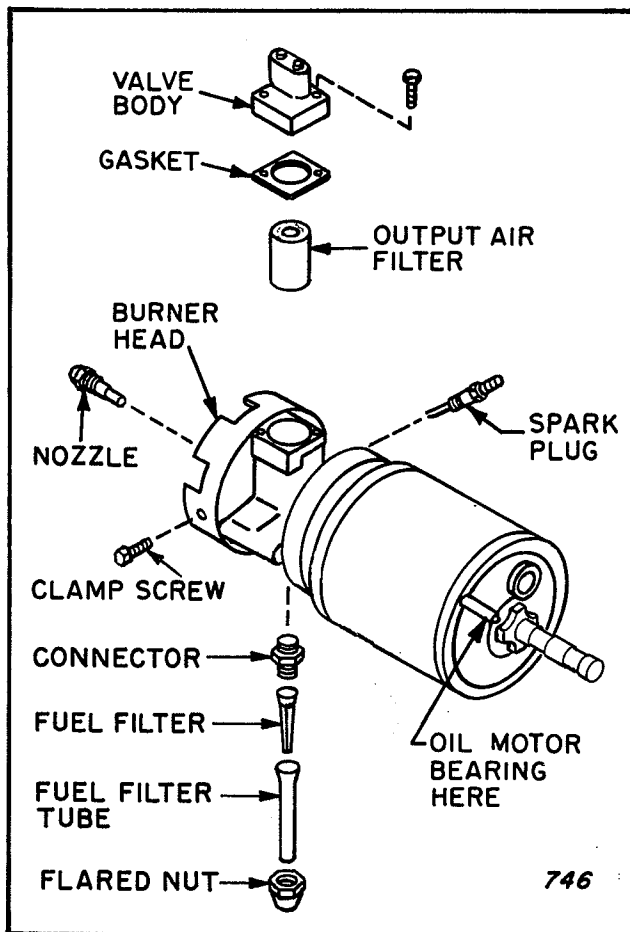

Figure 6. Maintenance of Filters and Motor
b. To reach the output air filter, take off the heater housing, remove the two screws and take off the valve body and gasket. Then lift out the filter element. See Figure 6.